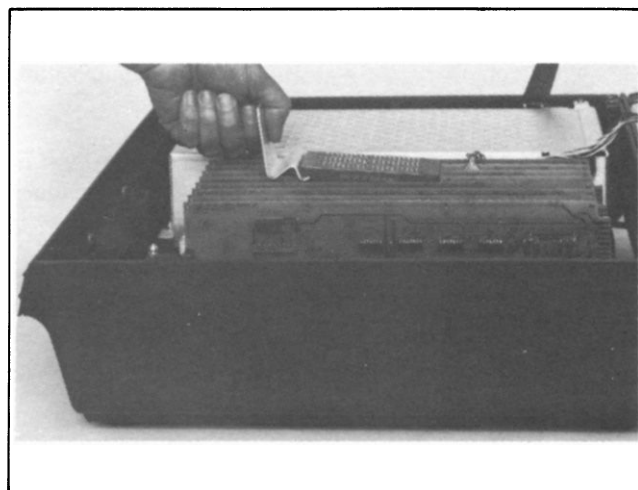

Figure 7-7. Top Plane Assembly Removal
2. () Insert connector removal tool under Top Plane Assembly as shown in figure 7-7 and remove Top Plane Assembly by pressing down on connector removal tool handle.
- () Insert connector removal tool under Top Plane Assembly as shown in figure 7-7.